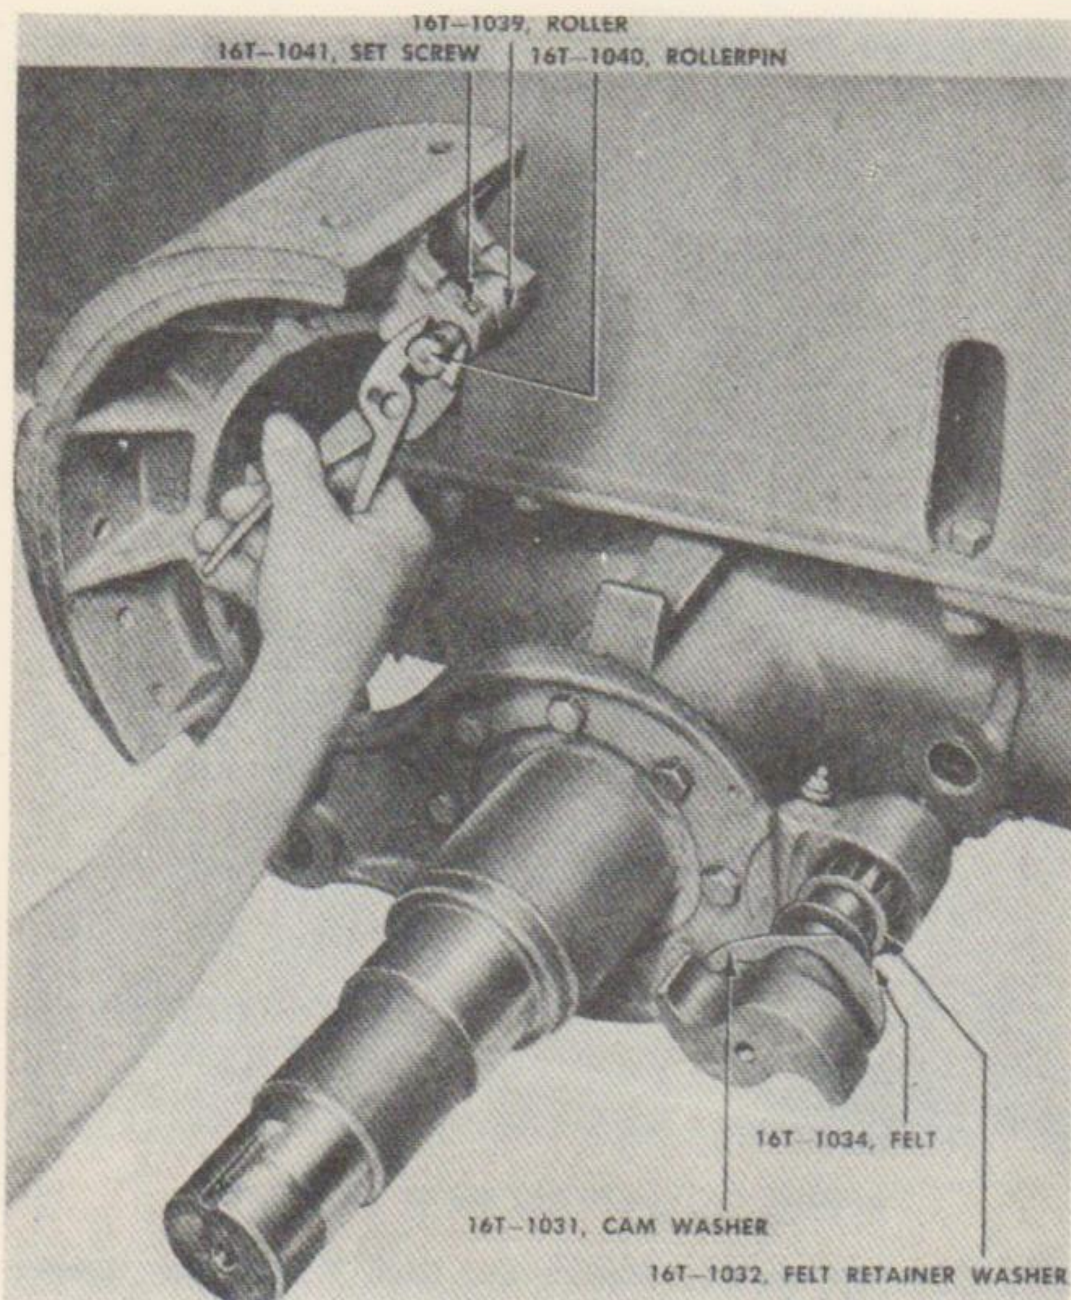

FIGURE 42. REMOVING BRAKE ROLLERS
(6) Loosen set screw in brake shoe. With a pair of pliers pull out the roller shaft and remove roller (fig. 42).
surface of roller shaft is in alignment with set screw hole in shoe. Install set screw and tighten. Place the two brake shoes in position on S-cam and couple the retracting spring between the two lugs located on the brake shoes. Coat surface of anchor pins with light film of general purpose grease No. 1. Inspect anchor pins to make certain one lock ring, one felt retainer and one felt is installed on each anchor pin (fig. 42). Place punch in anchor pin hole and align hole in shoes with hole in brake spider. Install brake anchor pins. Place felt over end of anchor pin, place retainer washer next to felt, and install lock ring. Install the two cap screws in brake shoes, and lock the two screws together using one locking wire.